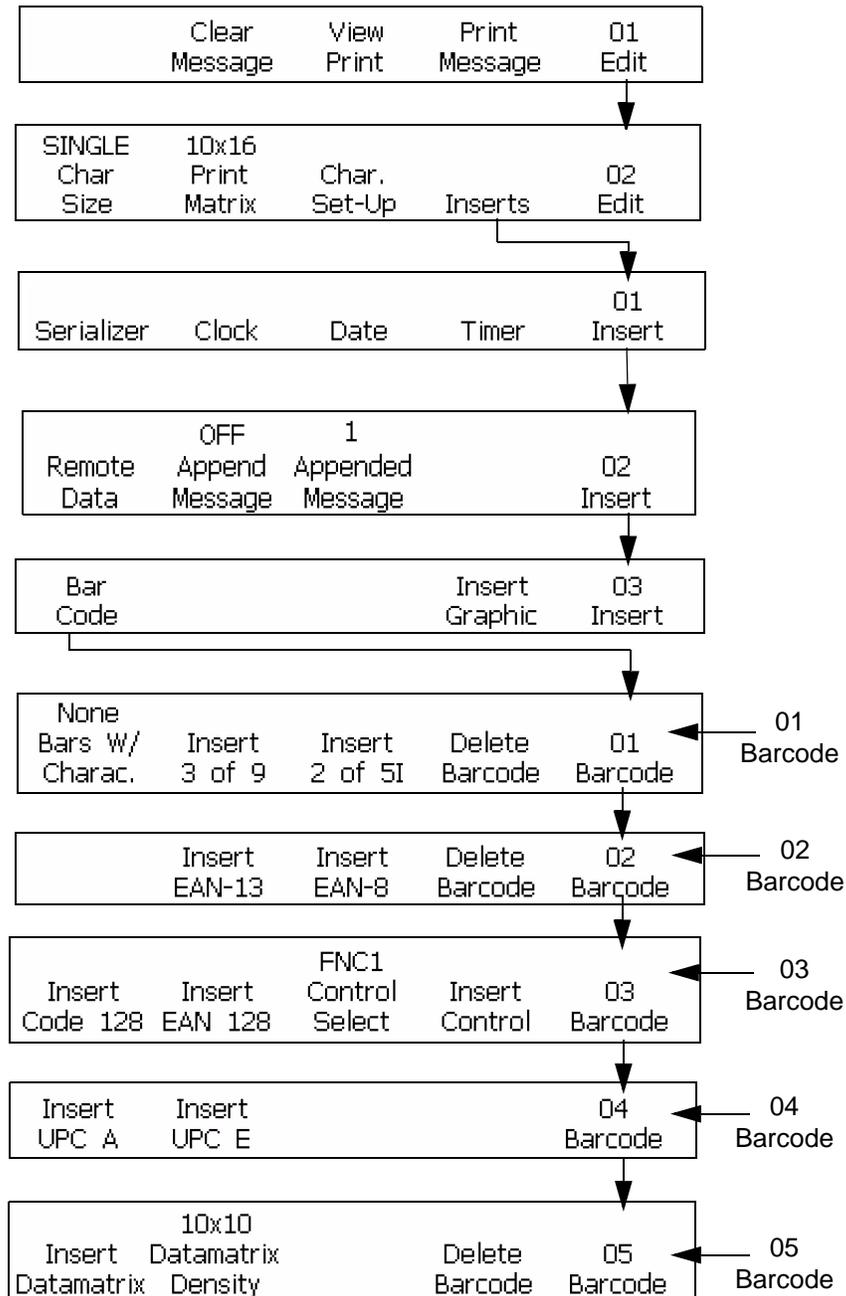

Figure 6-55: Accessing Frame <05 Barcode>
- 1 Begin in the frame <03 Insert>. Refer to Figure 6-55.
- 2 Press F1 to select <Bar Code>. Then press F5. Frame <04 Barcode> appears in the display. Refer to Figure 6-55.
- 4 From the frame <05 Barcode> (Refer to Figure 6-55 on page 6-76), Press F1 <Insert Datamatrix> to insert Data matrix barcode.